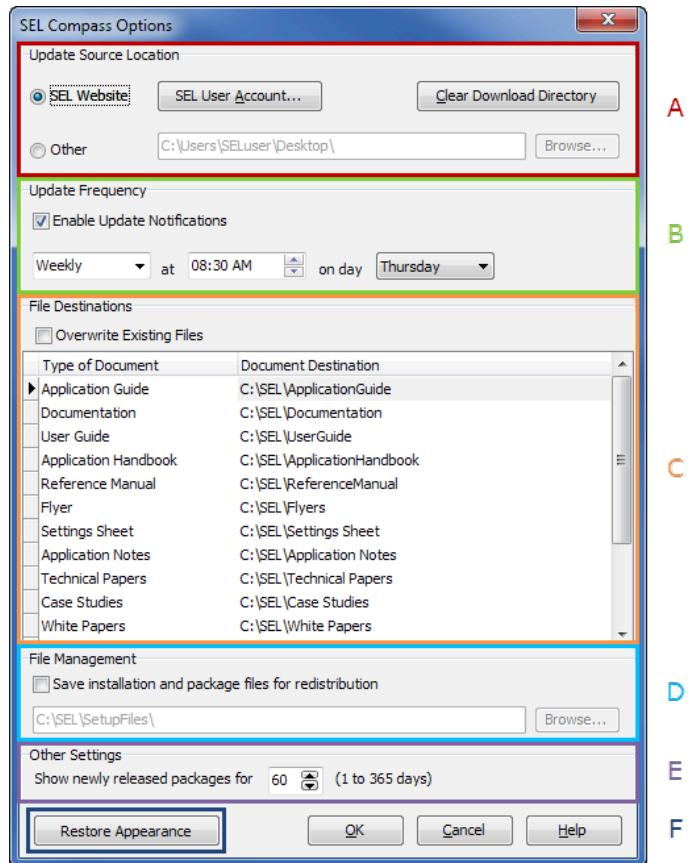
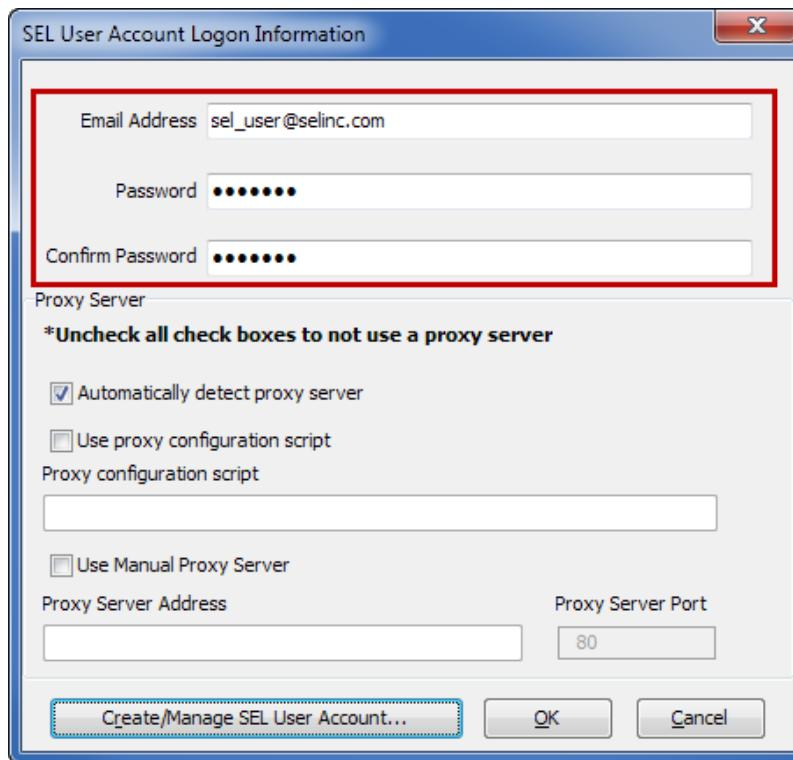
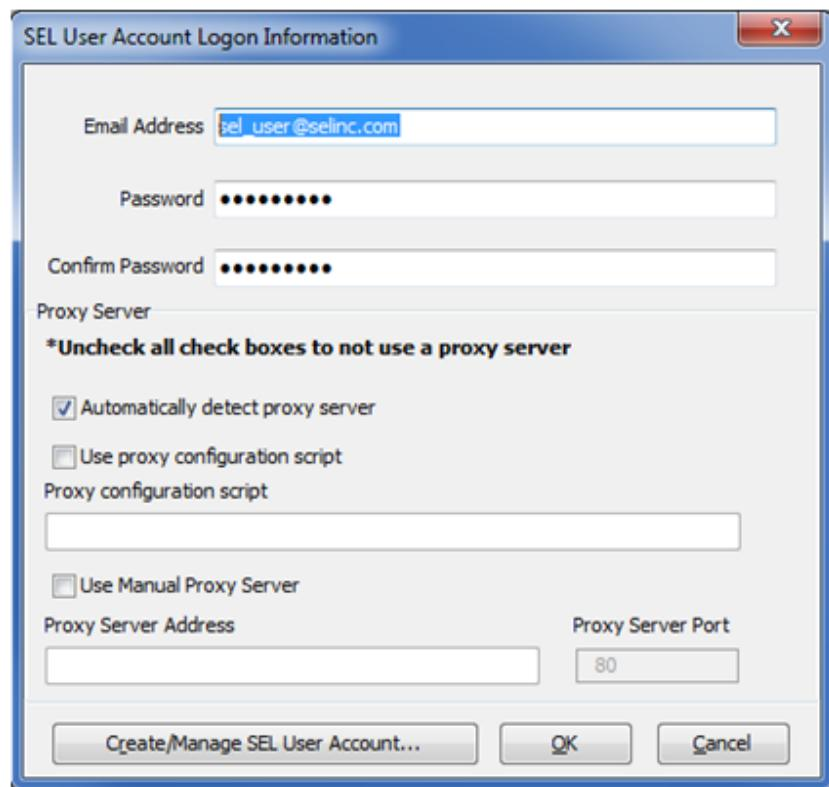

Figure 8.1 SEL Compass Options
Figure 8.2 SEL User Account Logon Information
Figure 8.12 SEL User Account Logon Information Window
When SEL Compass is opened for the first time, user account information or an update source location will need to be added before updates can occur. Additionally, further options may be adjusted to customize how SEL Compass functions. Open SEL Compass by double-clicking on the desktop shortcut or by clicking **Start > Programs > SEL Applications > SEL Compass**. Select **Tools > Options** to reach the **SEL Compass Options** dialog shown in *Figure 8.1* and see the section descriptions for further information.
- A. **Update Source Location:** Selects where updates come from. You can choose here to add **SEL User Account** information (see *Figure 8.2*) and to remove temporary files by choosing **Clear Download Directory**. Click the **Other** check box to select a location other than the SEL website from which to load updates. You would also use the **Other** check box when one computer connects to the SEL website as a server and all other computers point to that computer (as a local server).
To add or change account information, choose **SEL User Account** from the **SEL Compass Options** window (see *Figure 8.1*) to open the **SEL User Account Logon Information** window. Use this window to enter SEL website connection details, including your user logon information and proxy server settings. This information must be correct for SEL Compass to get the most recent updates from the server. See *Troubleshooting SEL Compass* on page 248 if logon fails. *Figure 8.2* shows sample input information. The proxy settings should reflect your network configuration. Check with your computer support personnel for the correct settings for your company network.
In the upper left-hand tool bar in SEL Compass, select **Tools > Options**. Then, in the **SEL Compass Options** dialog box, select the **SEL User Account** button (see *Figure 8.1*). The **SEL User Account Logon Information** window should display (see *Figure 8.12*). Make sure your logon information is correct. You must also be sure the proxy server settings are correct. Check with your computer support personnel about this setting and about your firewall settings, if applicable.